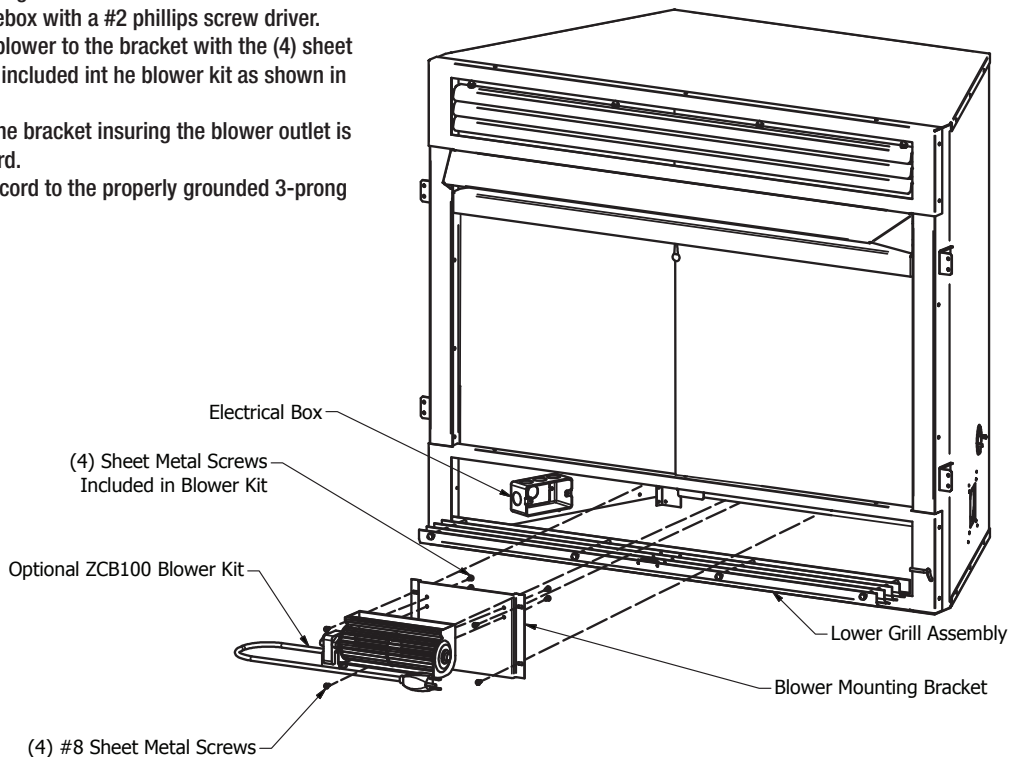

Figure 15 - Optional Blower Installation
2. Attach the blower to the bracket with the (4) sheet metal screws included in the blower kit as shown in Figure 15.